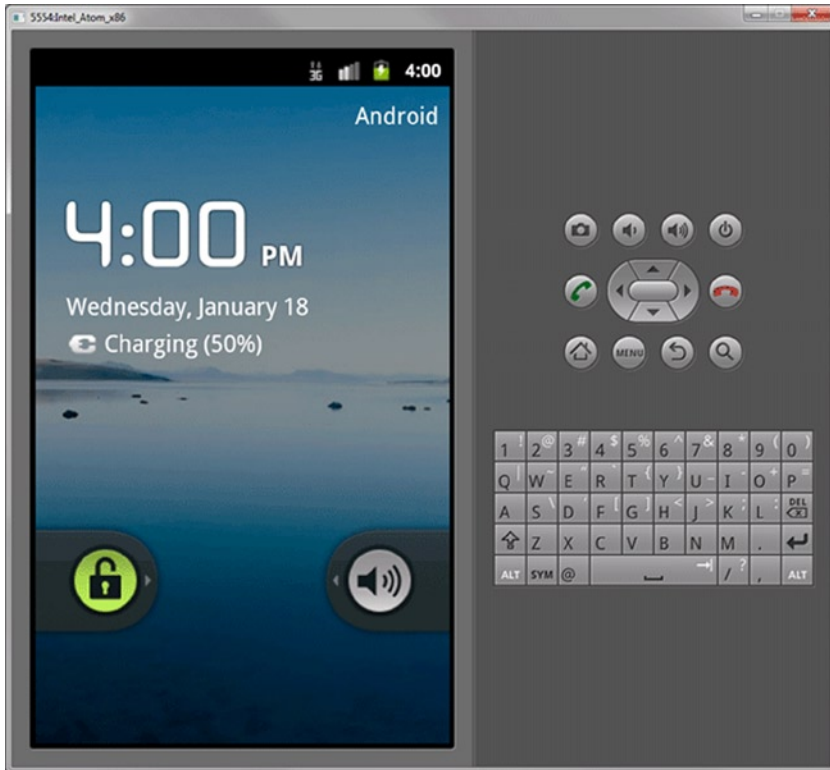

Figure 8-10. AVD Emulation of Intel Architecture-Based Android Device
13. After a few moments, the emulator will launch and show you the screen in Figure 8-10.